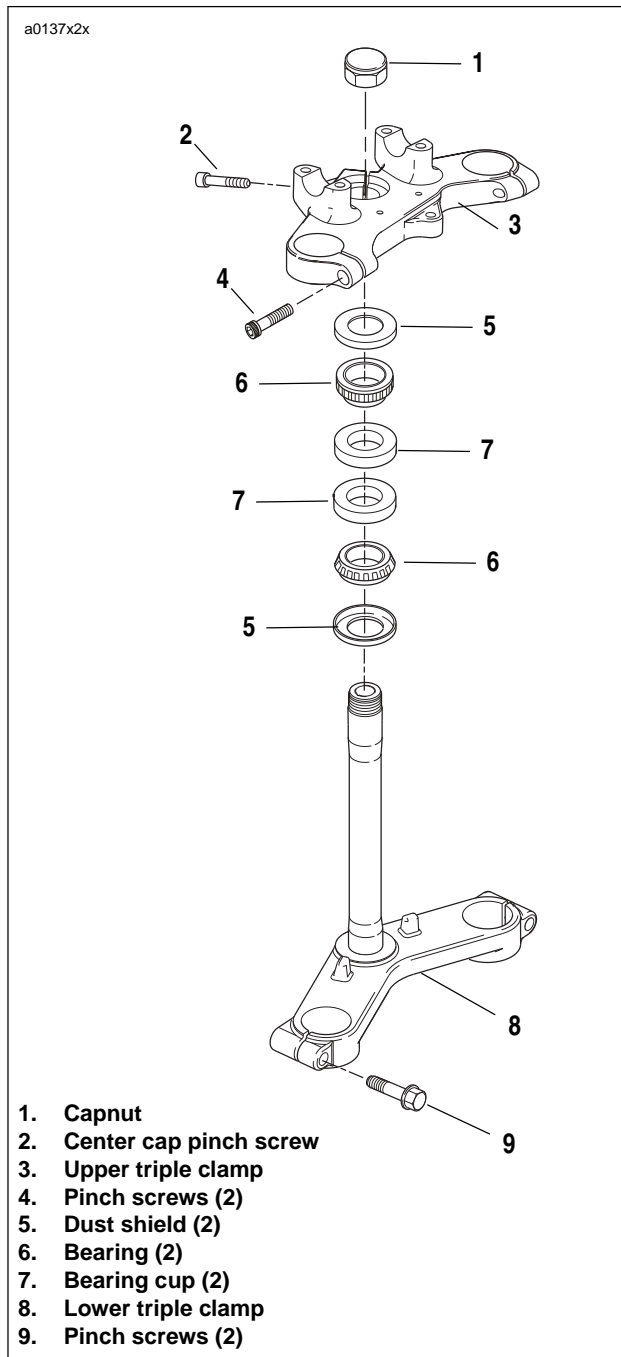

Figure 1-34. Fork Stem and Bracket Assembly
6. See Figure 1-34. To adjust:
- a. Loosen both pinch screws (9) on lower triple clamp.
- b. Loosen center cap nut pinch screw (2) on upper triple clamp.
- c. Loosen cap nut (1), then tighten to 48-52 ft-lbs (65-71 Nm) to seat bearing. Loosen cap nut, apply **LOC-TITE 243 (Blue)** to threads of fork stem and retighten cap nut to 28-32 ft-lbs (38-43 Nm).
8. Tighten both lower triple clamp pinch screws (9) to 22-29 ft-lbs (30-39 Nm).